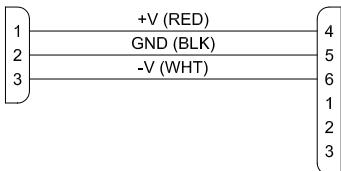

Figure 15. 3500-S Power Cable with 6-Contact Plug
- The 3500-S may obtain power from PESA system components having 6-contact power connectors by using a power cable assembly (Part No. 81-9065-1653-0) constructed as shown in Figure 15. If this cable must be constructed in the field, please consult WI50-0238 for assembly details. This cable may be used with the following equipment: